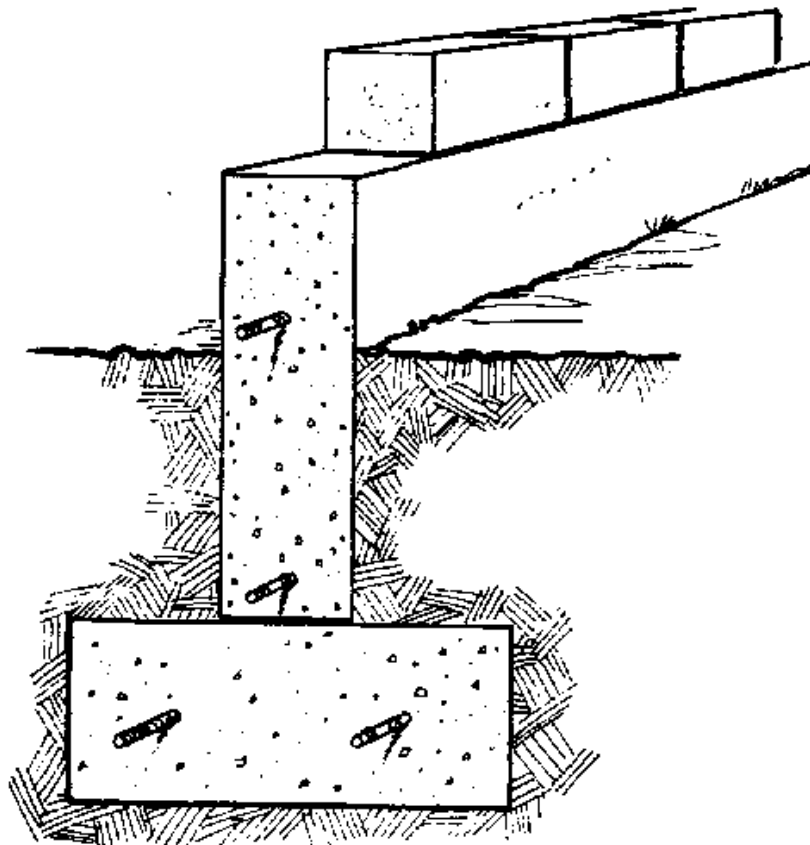

Figure 25.
*TYPES OF FOUNDATIONS* - House foundations may consist of separate *piers or footings*, which receive the load of the house through heavy beams that rest on them, or they may be *continuous footings* that run under all outside walls and load-bearing partitions. For earth walls, continuous footings are most commonly used. A *foundation wall* rests on the footing and extends upward and supports the walls. A typical continuous footing and foundation wall is shown in Figure 25. Not all such construction requires reinforcing steel.
*FOOTINGS* - Footings have three purposes: (1) to provide a solid, level base for the foundation walls; (2) to hold the weight of the house it supports on the earth so that the load will not be too great at any point for the soil to support; (3) to resist the "lifting" forces of hurricane or high winds which can tip a house over or move it off of its foundation.